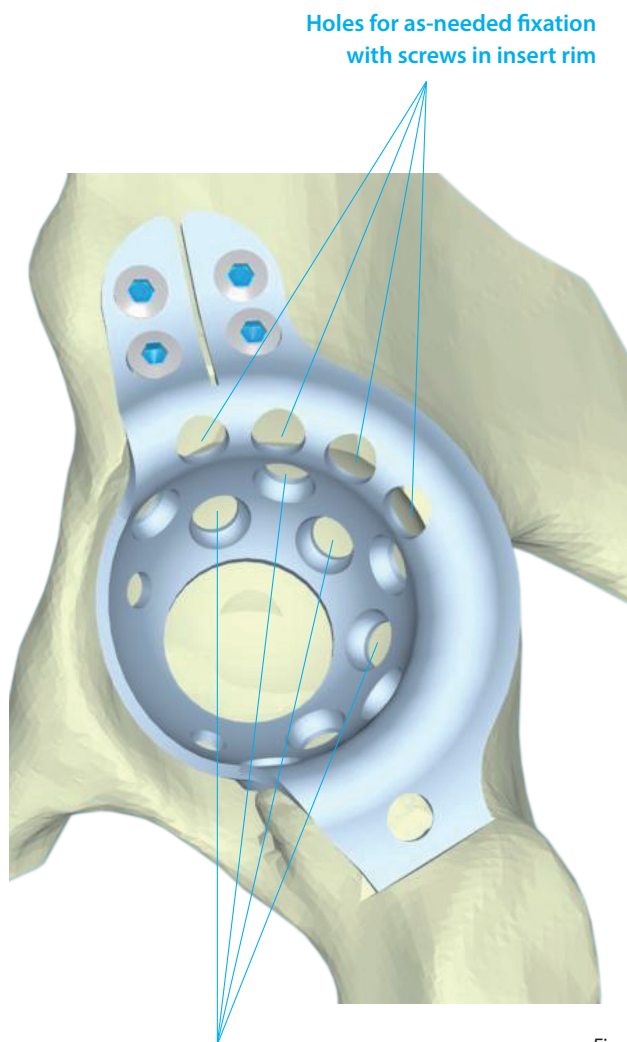

Fig. 4
8. In the proximal direction, fix the BS insert to the iliac bone with a minimum of four self-cutting cortical or spongious screws with a low-profile head (Fig. 4); the type of screws is selected based on the surgeon's preference. Screw holes are drilled using a 3.2 diameter drill bit with a flexible extension (or a straight drill bit can be used) {11, 12} and a drilling sleeve {14}. The depth of the holes is measured with a special depth gauge {13}, whereas its scale directly shows the proper screw length. Screw in the screws in different directions, and make sure not to move the BS insert in the proximal direction.